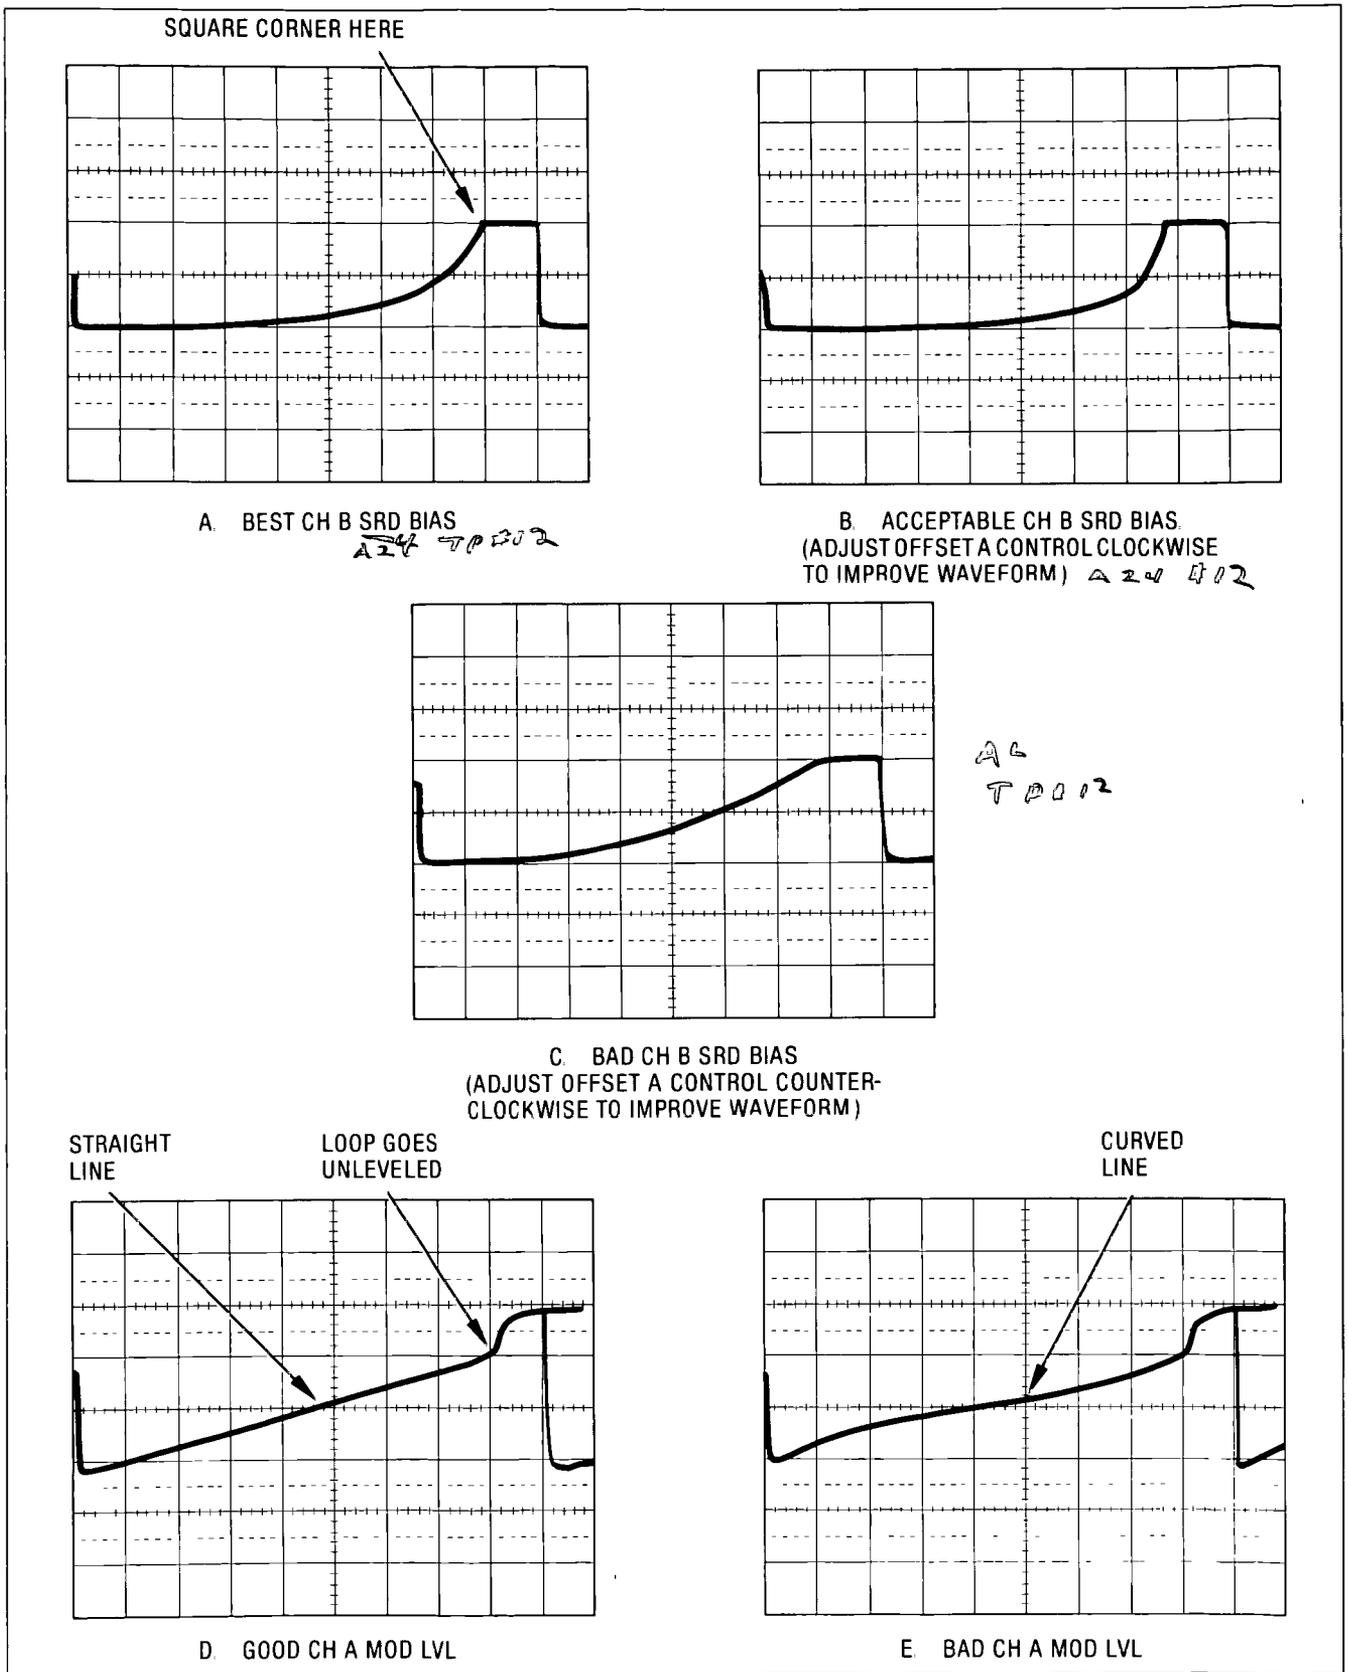

Figure 5-55. Typical MOD LVL and SRD BIAS Waveforms
The oscilloscope display should look similar to Figure 5-55.
11. Adjust A24R1 (OFF A) for optimum display as shown in Figure 5-55, Waveforms A, B, and C.
12. On the DUT, press **[CW] [1] [3] [GHz]**. Adjust A24R2 (OFF B) for optimum trace as shown in Figure 5-55, Waveforms A, B, and C.
13. On the DUT, press **[CW] [1] [0] [GHz]**. Adjust A24R5 (X2C) to minimize the MOD LEVEL voltage (Channel A) at the start of the power sweep and keep the MOD LEVEL power sweep trace straight with no step or bows as it sweep up (see Figure 5-55, Waveforms D and E).
19. Using the DUT's [▲] and [▼] step keys, step through Band 2 from 7 to 13.4 GHz and check for an optimum SRD bias trace (Figure 5-55, Waveform A, B, and C) at each step. If not optimum, adjust A24R1 (OFF A) if the frequency is closer to 7 GHz, or adjust A24R2 (OFF B) if the DUT frequency is closer to 13.5 GHz. If an adjustment is made, step through the entire band again, making sure every step is optimized or acceptable if all the steps cannot be optimized.
20. Using the DUT's [▲] and [▼] step keys, step through Band 2 from 7 to 13.4 GHz and readjust A24R5 (X2C) if necessary to improve the MOD LEVEL trace. Also, adjust A24R1 (OFF A) and A24R2 (OFF B) if necessary to optimize the SRD Bias as in step 19 above. If any adjustments are made, step through Band 2 again until the SRD bias and the MOD LEVEL trace is optimized. It will not be possible to adjust the MOD LEVEL trace for optimum at each step, so adjust for best compromise trace across Band 2 (see Figure 5-55, Waveforms D and E).
The SRD bias trace is adjusted in Band 2 with A24R1 (OFF A) and A24R2 (OFF B) set for optimum. It should not require any other adjustments in Bands 3 or 4, unless the SRD bias trace is bad as shown in Figure 5-55. If either the OFF A or OFF B controls are adjusted in Bands 3 or 4, then each band will have to be rechecked, starting with Band 2 at 7 GHz and stepping through each band.